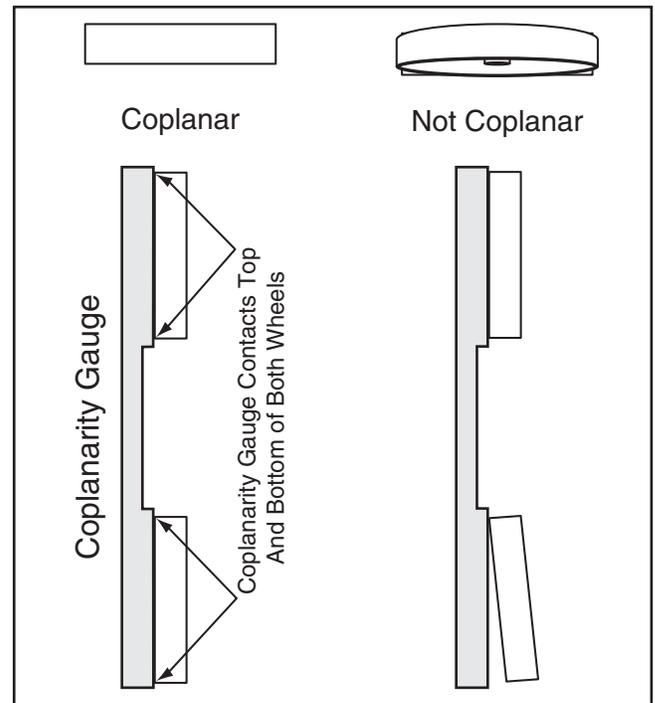

Figure 58. Wheel coplanar example.
6. Again use your coplanarity gauge to check the tilt of the upper and lower wheels. If possible, have an assistant hold the gauge while you make adjustments to the set screws. Adjust as necessary until the gauge touches the top and bottom of both wheels, as shown in **Figure 58**.